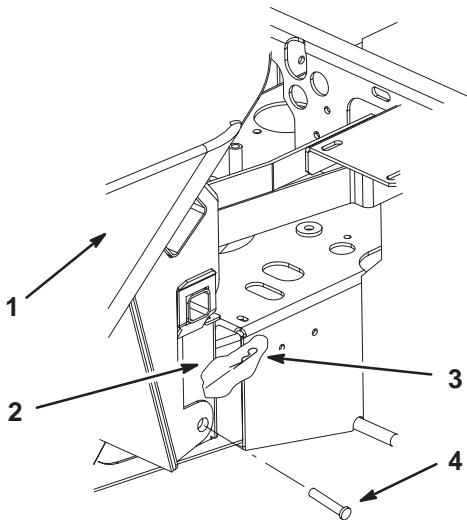

Figure 14
1. Install the bagger onto the bagger mounting bracket (Fig. 14).
2. Install clevis pins into the bagger and bagger mounting bracket. Secure them with hairpin cotter pins (Fig. 14).